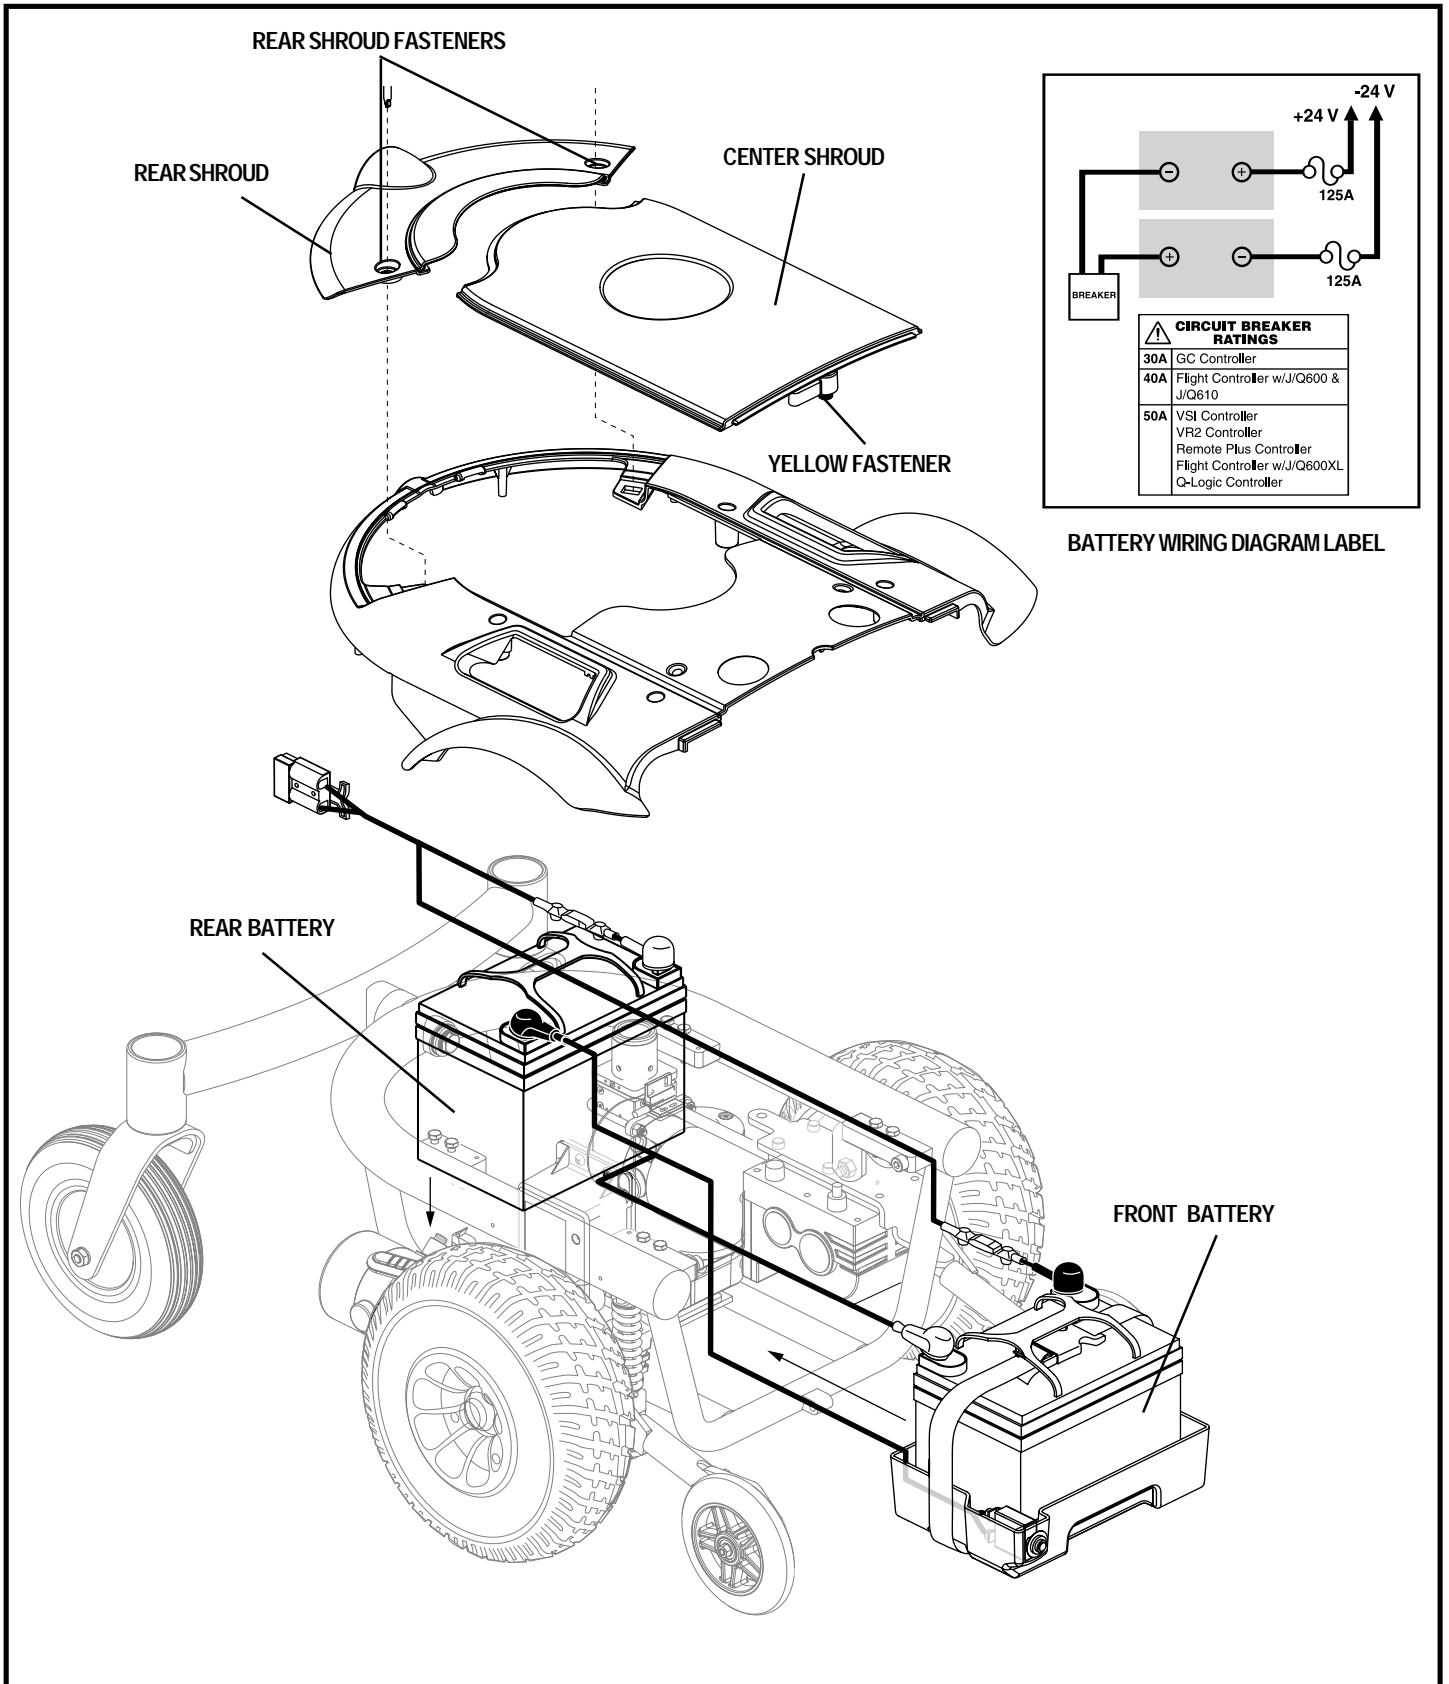

Figure 29. Battery Installation
4. Turn the rear shroud fasteners one-quarter turn in any direction. See figure 29.
8. Turn the yellow fastener one-quarter turn and remove the center shroud. See figure 29.
12. Connect the battery harness to the rear battery according to the battery wiring diagram. See figure 29.